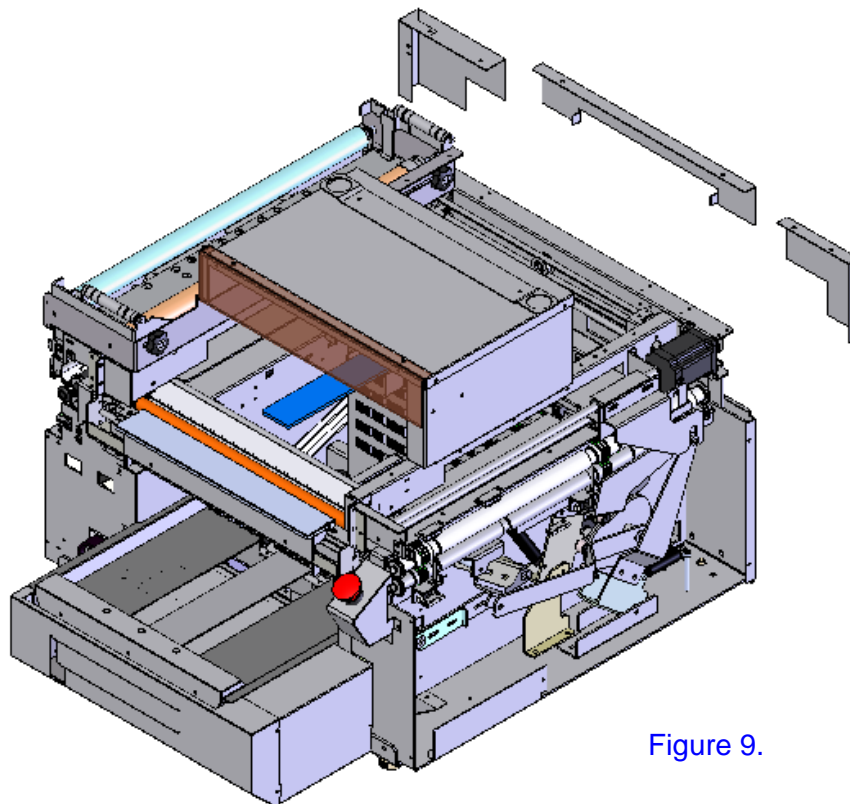

Figure 9.
14. Remove the three rear covers (six screws). See Figure 9.